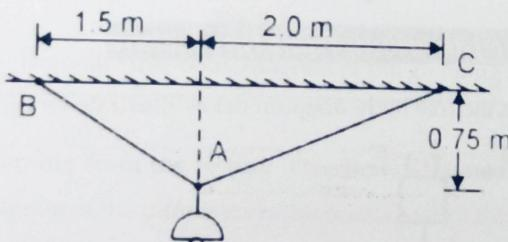
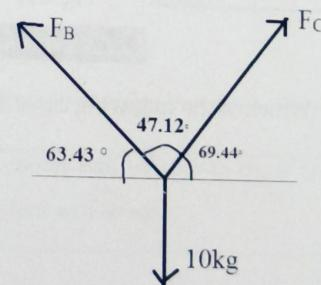

Fig 2.5
Fig 2.6
- 2) Draw Free body diagram for given fig 2.5, showing a 10 kg lamp supported by two cables AB and AC. Find the tension in each cable. (Ans: Fig 2.6)